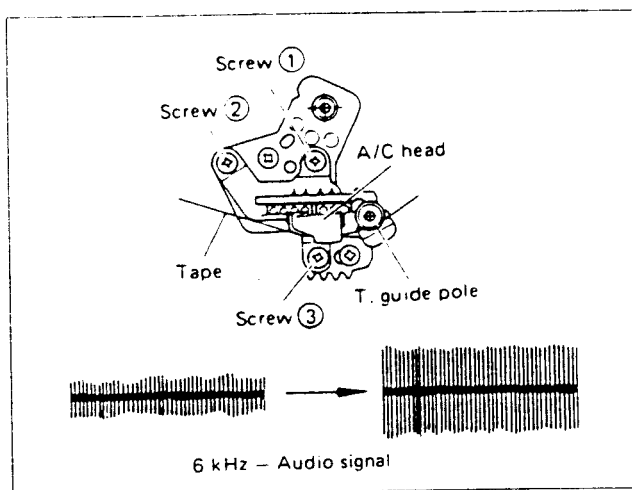

Fig. 2-5-1
- 1) Adjust the 3 screws (screw ①, ②, ③ in Fig. 2-5-1) to set the audio/control head height to 6.6 mm (0.26 in). Adjust all screws equally.
- 3) Adjust Black Screw ② on the head base in Fig. 2-5-1 so that the output level is at a maximised.
- 4) Readjust Screw ① shown in Fig. 2-5-1 for maximum output.